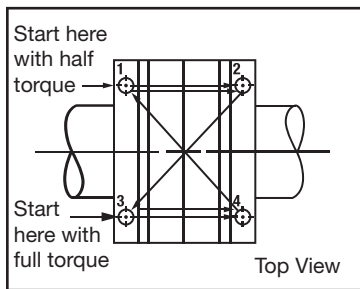

Figure 1
**NOTE:** This sequence forms a “z” pattern. See Figure 1.
Again tap down the inner ring evenly on the circumference and tighten all four screws to the full torque, starting with screw No. 3 and going to No. 4, No. 1 and No. 2. See Figure 1.